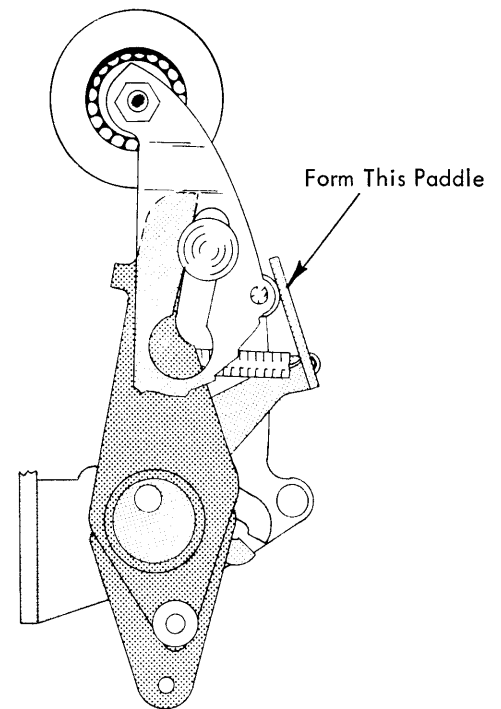

FIGURE 65. Arm Assembly In -3 Position
- 12. Ratio Change Adjustment - With the machine half-cycled under power to an upper case "R", form the paddle on the rotate eccentric arm until the upper case "R" (-3) detents the same as the upper case "M" (-5). Each time the paddle (Fig. 65) is formed the machine must be recycled under power before observing the detenting of the "R". This allows the eccentric shoulder to reseat itself in the compensating arm.